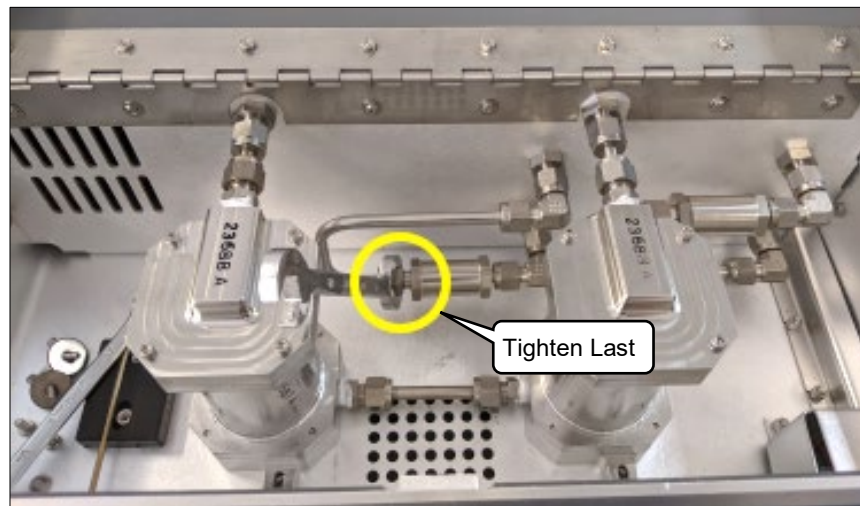

Figure 60: Tightening the Filter Final Fitting
8. Tighten the final Swagelok fitting shown in Figure 60 below.